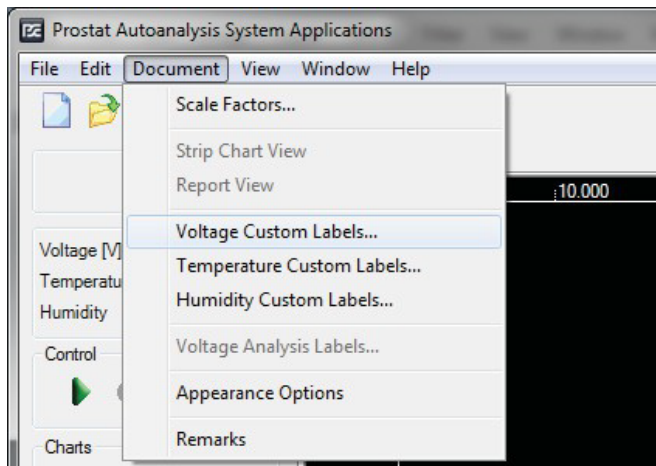

Figure 9: Customize Chart Using Voltage Labels and Lines
2. Select **Voltage Custom Labels** (see Figure 9)